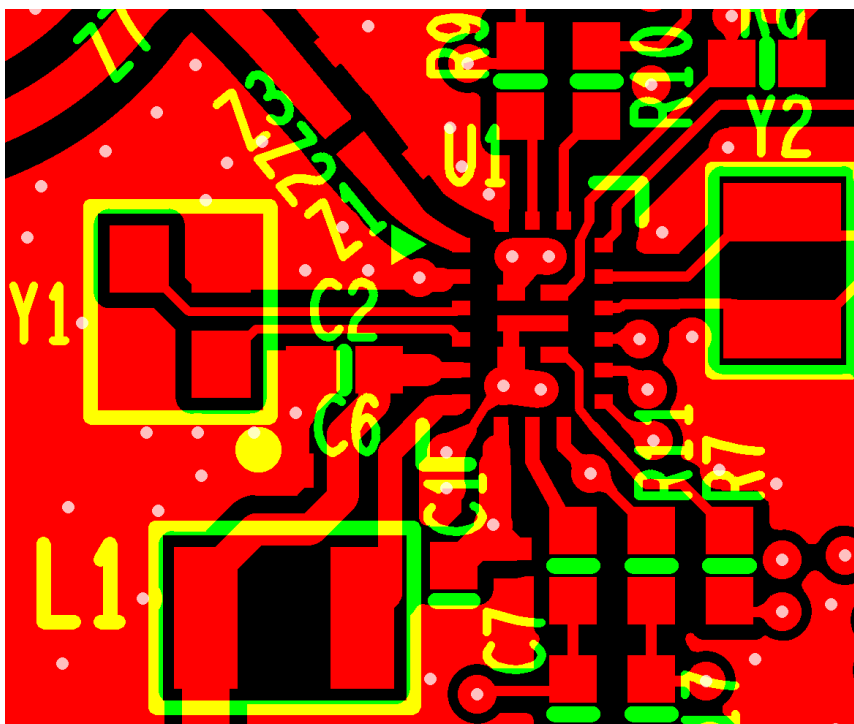

Figure 23. PCB placement and routing – top layer
- Connect pin 19 to GND with vias as shown in Figure 23
- Short 20, 21, 23 GND pins together and use two GND vias, as shown in Figure 23